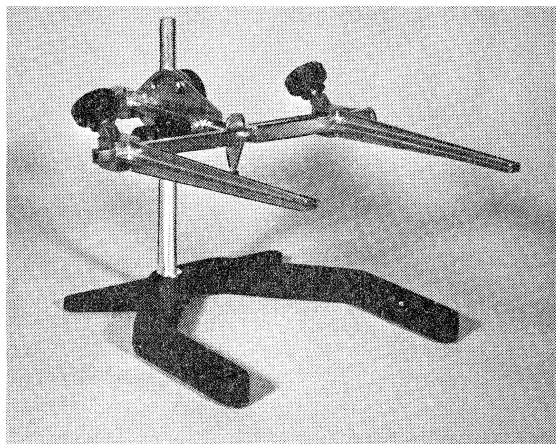

**Figure 2-6.—Rotary-drive machine accessories. BALL MILLS**
The accessories used with the rotary-drive tool are shown in views (A) through (F) of figure 2-6. Abrasive ball mills, wheels, discs, and brushes are either premounted on mandrels or can be mounted by the technician on the mandrels provided. These attachments are used for sanding and smoothing repaired areas, drilling holes, removing conformal coatings, and repairing burned or damaged areas. A chuck-equipped handpiece allows it to accept rotary tools with varying shank sizes.